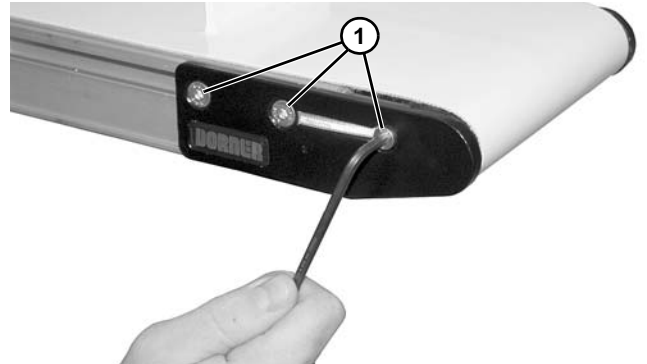

Figure 72
2. Install the headplate over the drive pulley and attach the headplate to the conveyor frame with three screws (**Figure 72, item 1**). Tighten screws to 7 Nm.